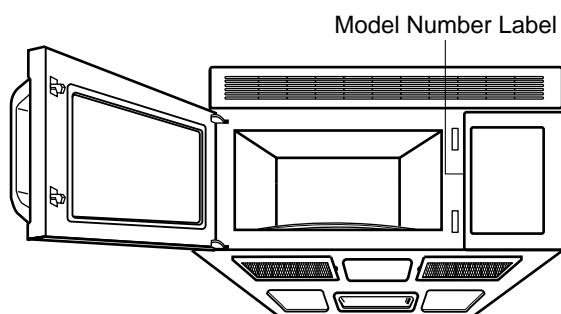
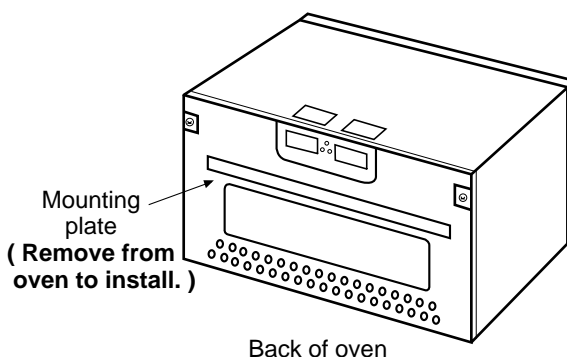

Figure 1
Figure 2
- Write the model & serial numbers on the owner's manual. The model number label is located on the oven front. See Figure 1. The mounting plate is located on the back side of the microwave oven. See Figure 2.